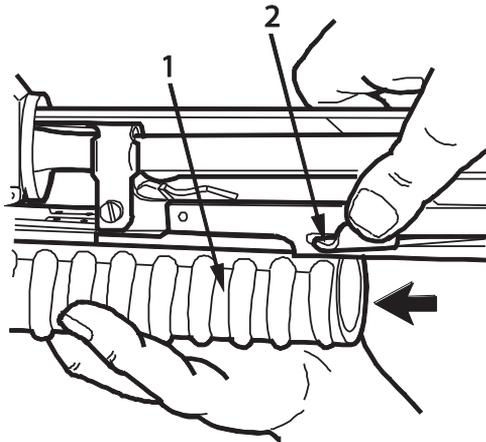
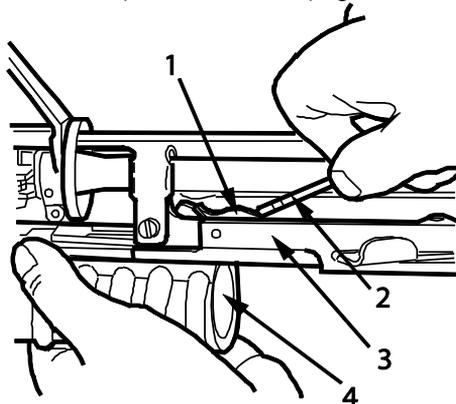

Figure 4. Barrel Latch-Disassembly.
Figure 5. Barrel Stop-Disassembly.
4. Press barrel latch (Figure 4, Item 2) and move barrel (Figure 4, Item 1) forward until it stops.
5. Press barrel stop (Figure 5, Item 1) with cleaning rod section (Figure 5, Item 2). Remove barrel (Figure 4, Item 4) from receiver (Figure 4, Item 3).